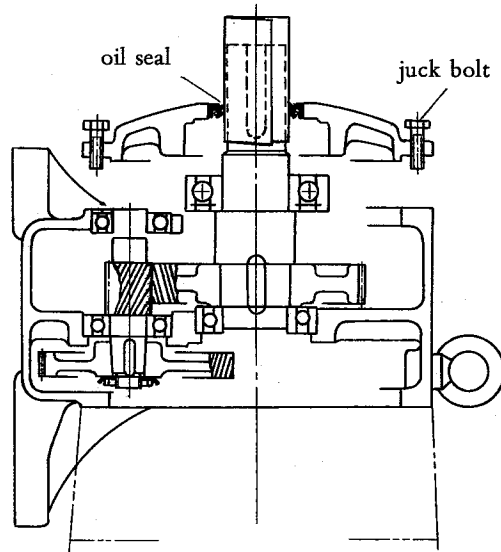

Fig. 9
- a) Take out the bolts (64), screw 2 of these bolts in the tapped holes and remove the cover (2) with the 2 bolts as jack bolts. (If you go screwing the 2 bolts evenly, the contact plane is lifted so as to separate the faucet joint.) (Fig. 9)
- b) There is an oil seal in the center of the cover. Therefore, indrawing out the cover along the shaft, such care as winding the shaftend with paper should be taken so that the key way may not damage the oil seal lip. (Fig. 9)
- a) Take off the slinger plates (4) (5). As the slinger plate (4) has an oil seal, take care not to damage the oil lip. (ref. Fig. 9)
- b) In the case of a steel housing, first take off the set screw (77) and the slinger (30), and then remove the slinger plate (4).
- c) Pull out the bolts (64) and the threaded taper pin (55), twiss a rope round the hook on the cover (2), and hang up the cover carefully not to tilt.